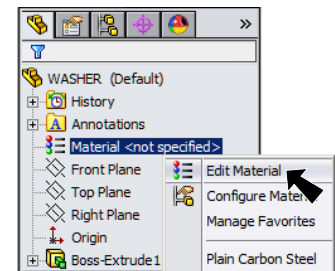

Fig. 5
- Step 1. **Right click** **Material**  in the Feature Manager and click **Edit Material**, **Fig. 5**.